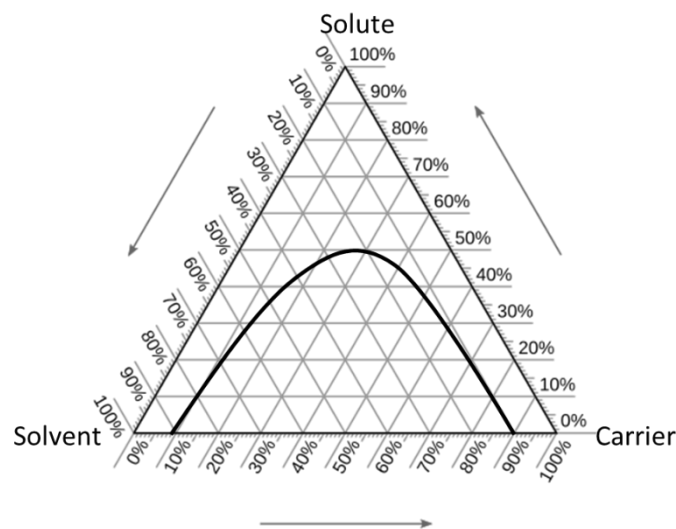

Figure Q28: Ternary diagram for a partially immiscible solute – carrier -solvent system.
- 6 The ternary diagram for a partially miscible solute – carrier – solvent system is shown in Figure Q28. Pure solvent is used. Among the choices given below, what is the maximum allowable solute concentration in the feed to implement an extraction separation process?